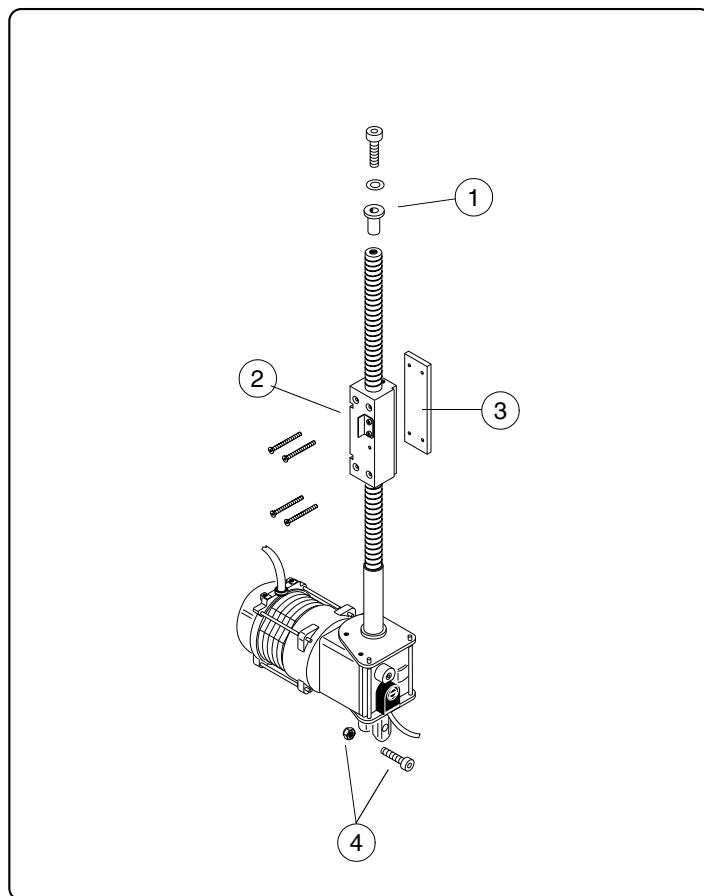

Figure H.37
- a) Remove the stopping collar of the worm-screw (Fig. H.37, 1).
- b) Unscrew the worm-screw nut from the worm-screw (Fig. H.37, 2).
- c) Remove the guide plate and the screws from the worm-screw nut (Fig. H.37, 3).
- e) Put in the new motor and fasten it to the telescopic column (Fig. H.37, 4).